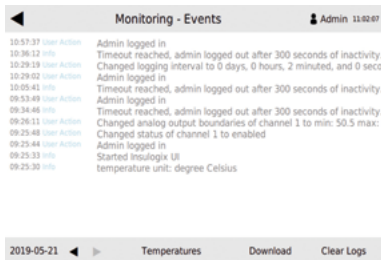

Figure 30: Monitoring-Events screen
3. Click on *Temperatures* in the bottom navigation bar (Figure 30).